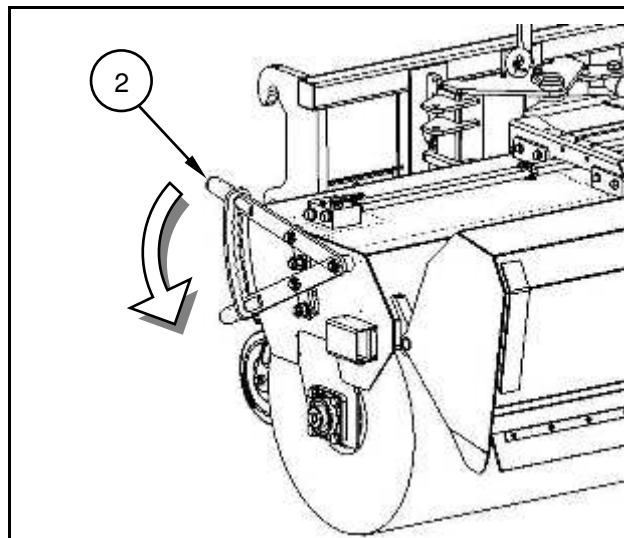

Fig. 6.2
- Set the ratchet lever system (2) on both sides to the lowest position (Fig. 6.2).